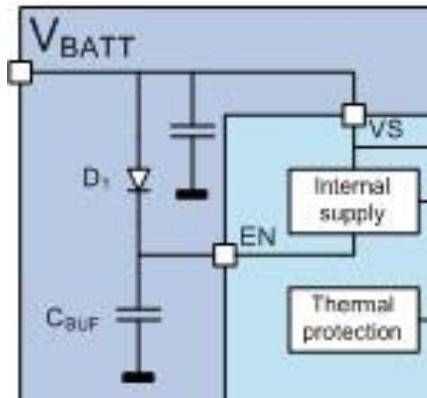

Figure 7 EN pin used as alternate logic supply
- Supplying the logic from the EN pin allows the device to have a faster response time at the outputs during PWM operation, where  $V_S$  of the device is PWM controlled directly. The output response time is shorter because the POR time,  $t_{POR}$  is longer than the  $V_S$  turn on time,  $t_{ON(V_S)}$ . So, if the EN pin voltage is kept above  $V_{EN(on)}$ , the output will respond more quickly to PWM control and achieve a wider duty cycle range. The capacitor and diode circuit below in Figure 7 is an example of a possible way in the application to keep the input to output delay as short as possible during PWM operation.